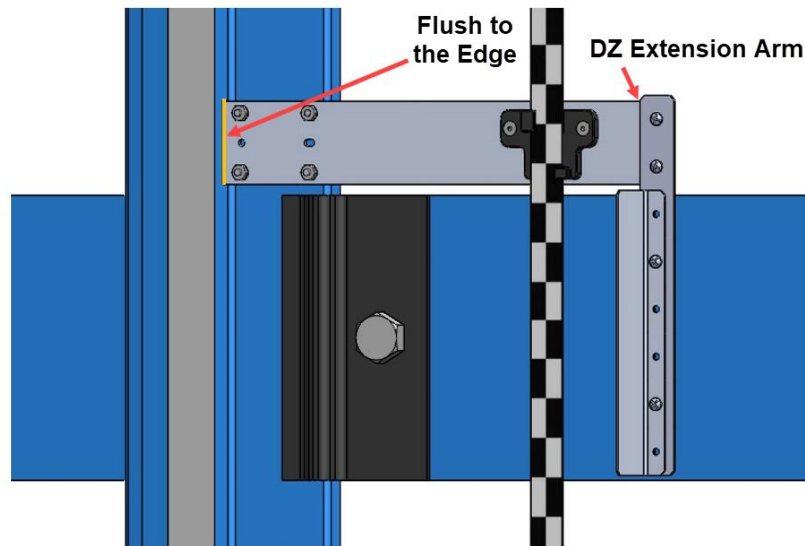

Figure 172: Tape Clip Assembly Alignment
- Install the door zone extension arm using the same screws, nuts, and washers (See Figure 172).